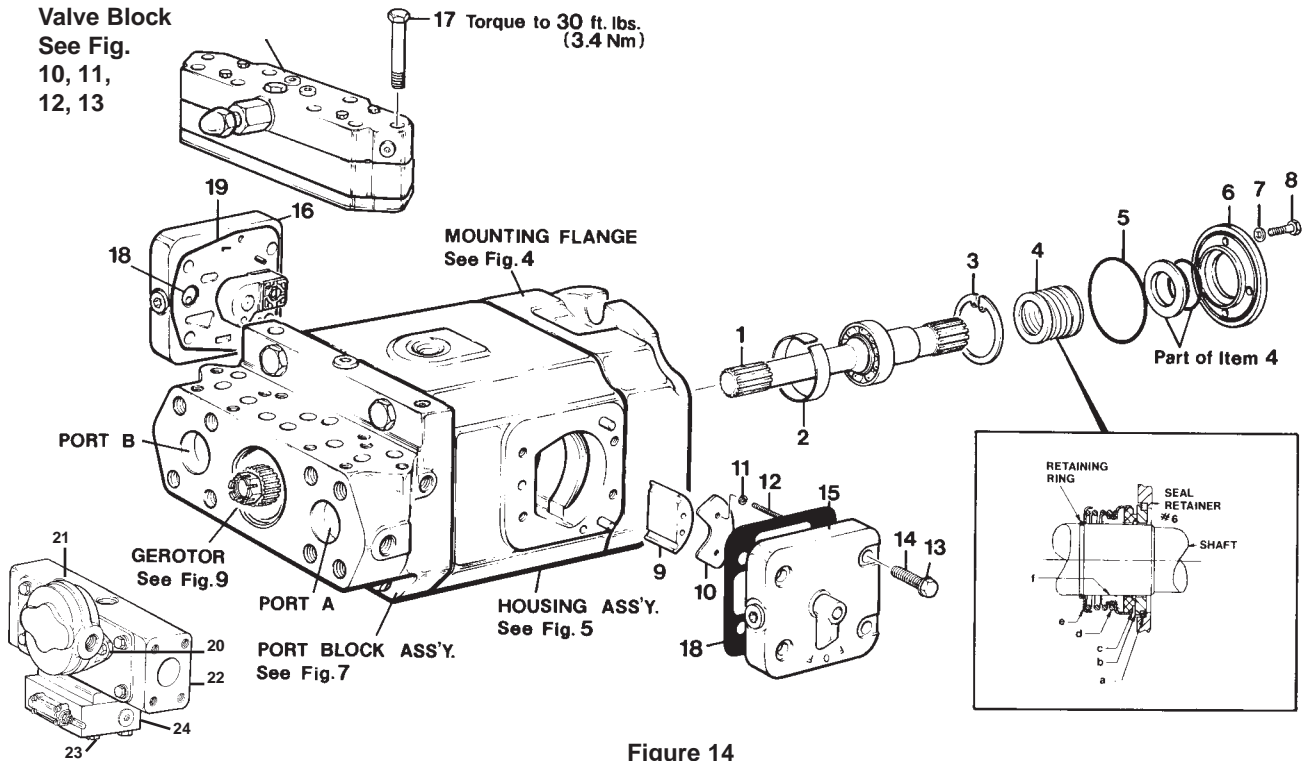

Figure 14
PARTS LIST FOR FIGURE 14
See figure 14. Stand the pump in an upright position with the port block inlet and outlet pads turned down.
See figure 14. The seal assembly (4) is available as a complete unit only.